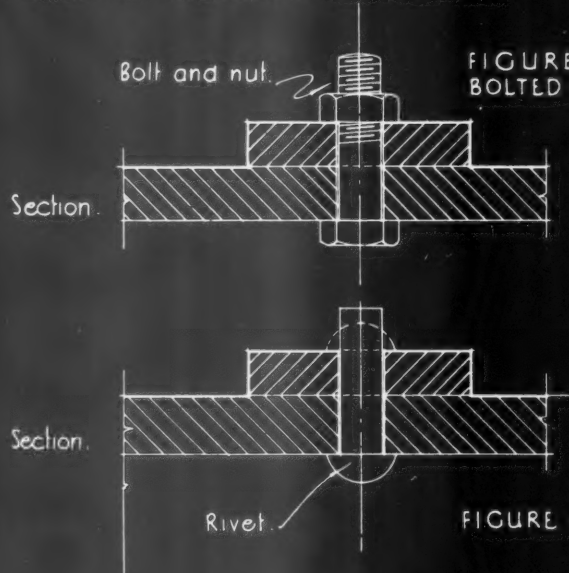

FIGURE 3 : BOLTED CONNECTION.
3. As a further development of process No. 2, by inserting bolts and fastening them by means of nuts. Figure 3.